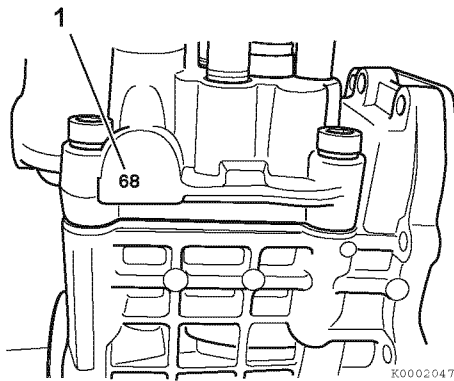

Figure 7-17
- Remove the fuel injection pump (Figure 7-16, (1)). For purposes of future injection timing purposes, record the fuel injection pump timing index number located on the boss on the engine side (back) of the of the fuel injection pump (Figure 7-17, (1)).